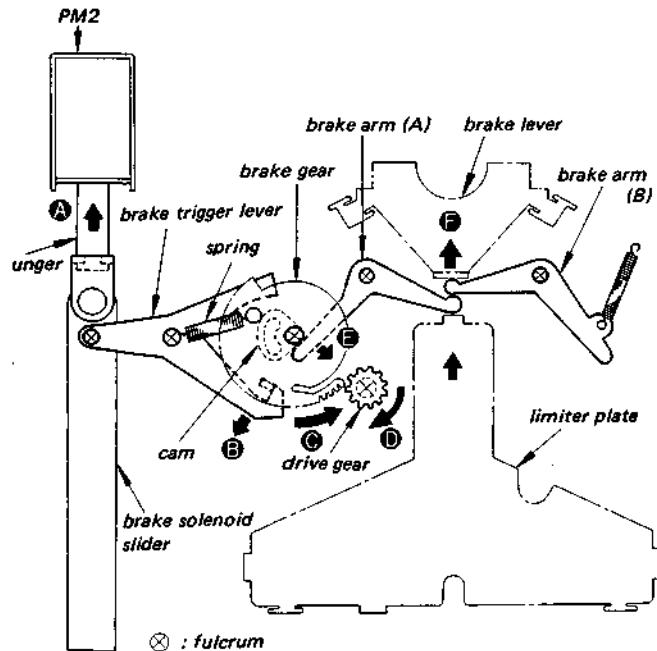
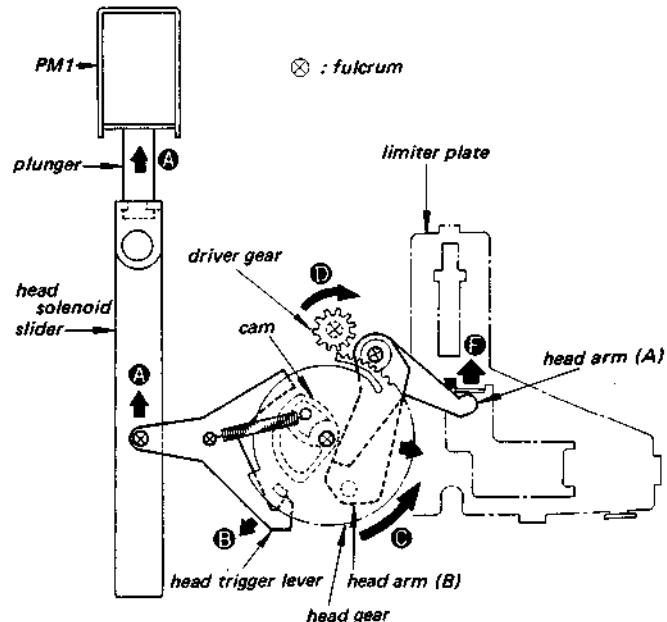

Fig. 1-1
Fig. 1-2
**Brake Release during fast forward mode and rewind mode.** See Fig. 1-1.
1. Depress the function button ►► (FF) or ◀◀ (REW).
4. When the cam pushes the brake arm (A) in the direction shown by the arrow F, the brake lever moves in the direction shown by the arrow G and releases the brake.
**Head Deck Drive during forward mode.** See Fig. 1-2.
4. When the cam pushes the head arm (A) in the direction shown by the arrow F, the brake lever moves in the direction shown by the arrow G and releases the brake.
5. With the limiter plate moving, the brake lever moves in the direction shown by the arrow H in Fig. 1-1 and releases the brake.